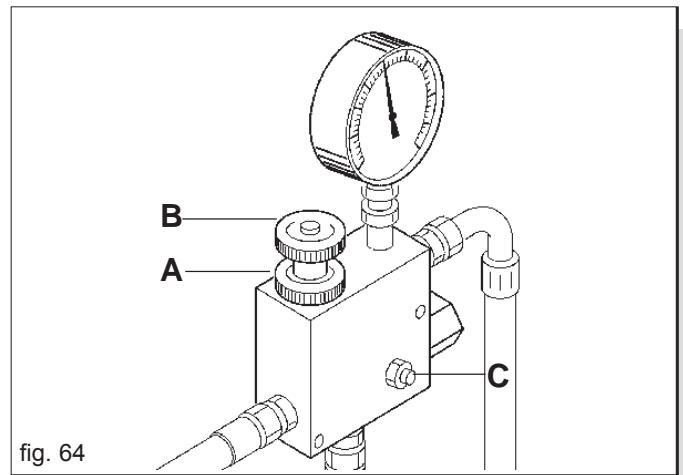

fig. 64
In tractors with a variable flow rate pump (closed hydraulic circuit), equipped with oil flow rate regulator, open the three-way regulator completely (B Fig. 64) and, starting with a low oil flow rate, gradually open the internal regulator of the tractor circuit until the required pressure is reached as shown by the pressure gauge (C Fig. 61).
If you wish to increase the number of revolutions of the fan for distributing heavier seeds, carefully proceed as follows (Fig. 64):
- loosen the handwheel (A Fig. 64);
- rotate the handwheel (B Fig. 64) clockwise or anticlockwise to reduce or increase pressure and adjust the number of revolutions of the blower accordingly.
It is strictly forbidden to touch act on the dowel (C Fig. 64) for any reason, as this would unset the system and could lead to the motor, the pump or the fan.